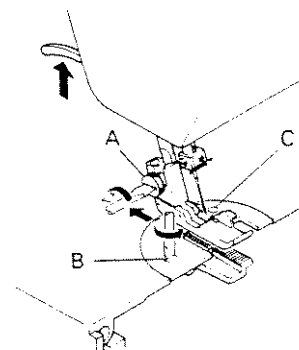

Fig. 1
4. Loosen thumb screw(A) and remove presser foot in use. (Fig. 1)
7. Take off needle plate in use by removing screw(B) and lifting plate up from guide pin(C). (Fig. 1)